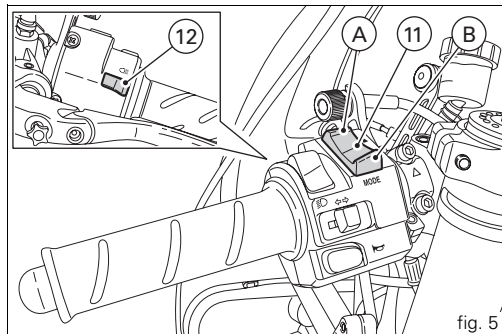

fig. 5
12) **High-beam flasher button FLASH** (fig. 5)